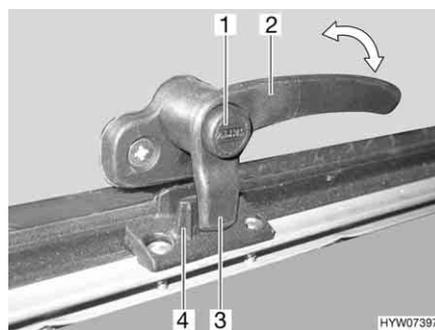
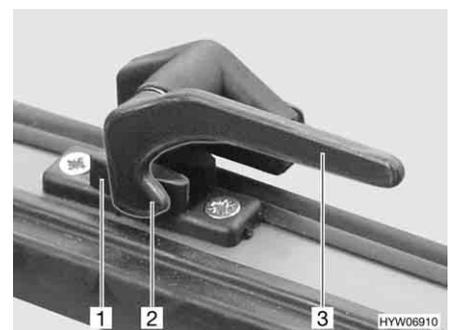

Fig. 64 Catch lever with safety knob in "closed" position
Fig. 65 Catch lever in "closed" position
- Press and hold the security button (Fig. 64,1), if present.
- Turn all catch levers (Fig. 64,2 or Fig. 65,3) a quarter turn towards the centre of the skylight.
- Turn all catch levers (Fig. 64,2 or Fig. 65,3) a quarter turn towards the frame. The locking catch (Fig. 64,3 or Fig. 65,2) is located on the inside of the skylight lock (Fig. 64,4 or Fig. 65,1).
- "Firmly closed" (Fig. 64 and Fig. 65)